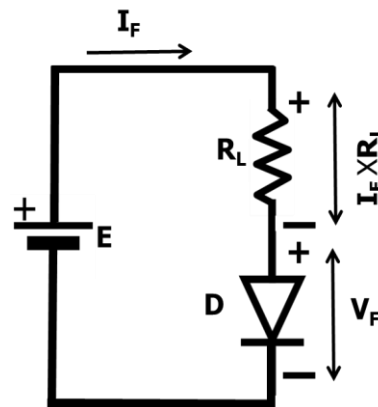

Fig 2.16
2.4.1 How to draw a DC Load line? Refer fig 2.16
Problem 2.9: Let us draw a DC load line for the ckt in fig 2.16 where $E = 6 \text{ V}$ and $R_L = 150 \Omega$
Recall from fig 2.16,